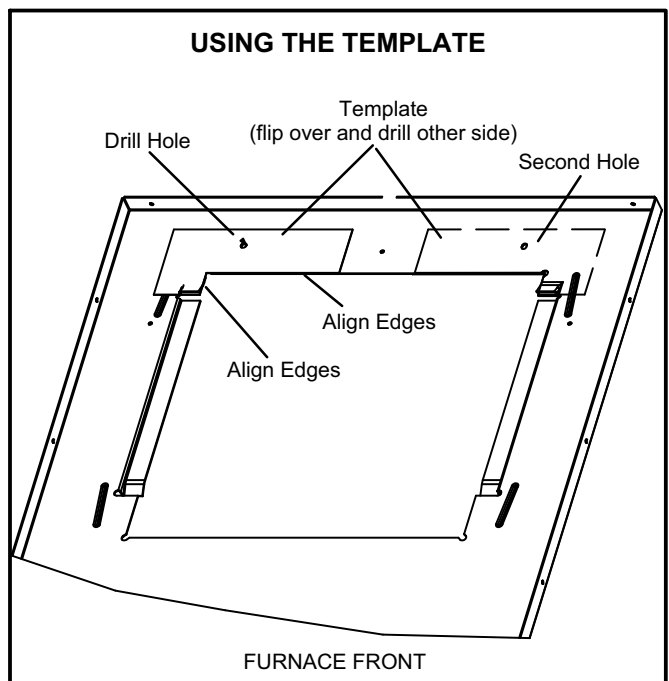

FIGURE 2
- 22 - Align template with the blower deck cutout as shown in figure 2. If necessary drill a 3/16" diameter clearance hole. Flip the template around and drill another hole of same size on other side of blower deck. See figure 2.